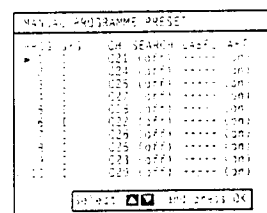

Fig. 20.
- 3 Select Manual Programme Preset with $\Delta+$ or $\nabla-$ and press OK. The MANUAL PROGRAMME PRESET menu appears. (See Fig. 20.)